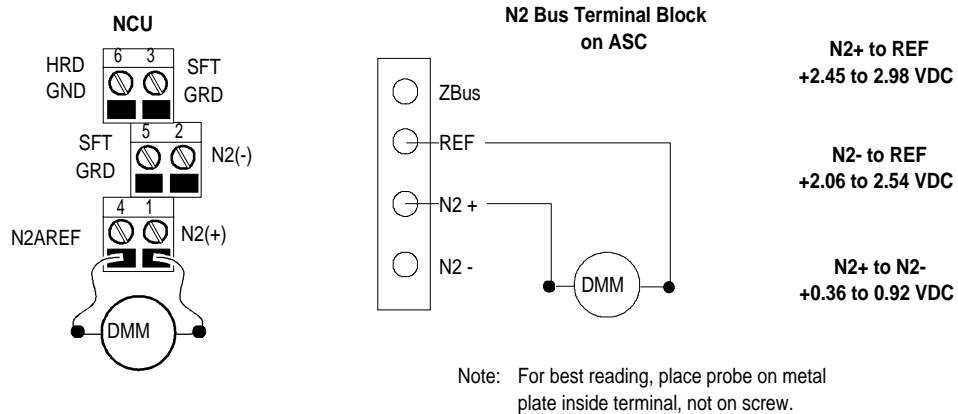

Figure 23: Measuring N2 Voltages at PHX
4. Power the PHX. Before connecting the N2 Bus at the FHI, check the voltage and polarity of the N2 DC bias voltages on the PHXs. Do so by connecting the DMM without the 100K ohm resistor across N2+ and REF (Figure 23). Write down the reading. Repeat for N2- and REF, then for N2+ and N2-. Compare the voltages you read to the following values: